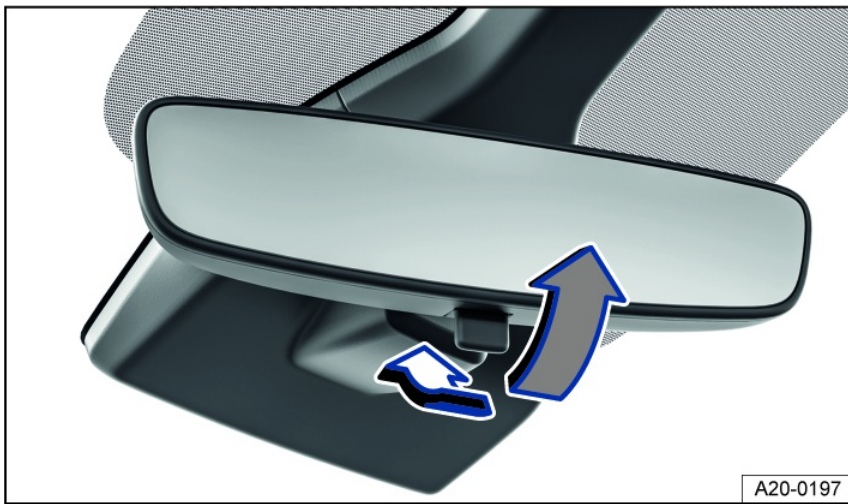

Fig. 87 On the windshield: manual dimming interior rearview mirror.
- To dim, pull the lever back *fig. 87*.